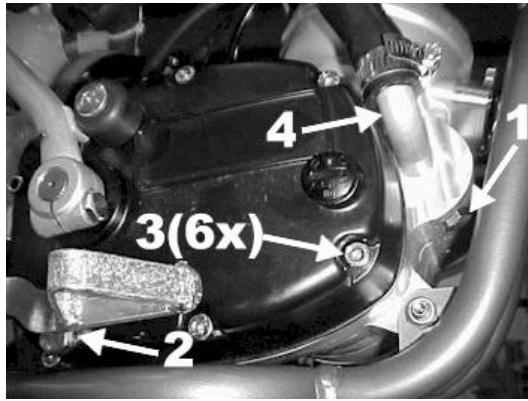

Figure 23
5. Drain engine transmission oil by removing drain screw using a 13mm- hex wrench. (item 2 in the figure below).
6. Remove kick-starter cover using a 5mm hex key. (item 3 six places)
8. Unscrew water elbow fitting. (Figure 23)